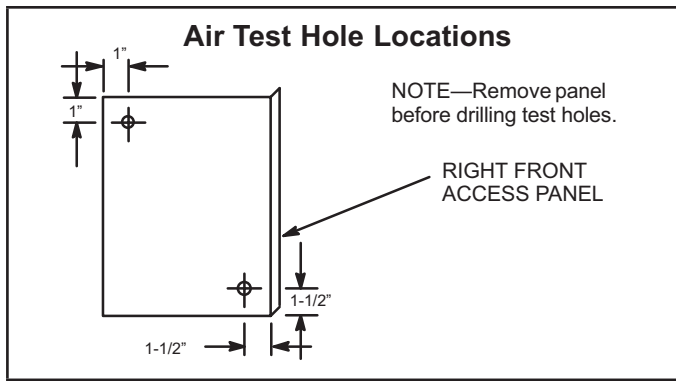

FIGURE 5. Air Test Hole Locations
- 2 - Drill two 5/16" (8 mm) air test holes in the right front access panel; hole locations are shown in figure 5. Replace the panel.